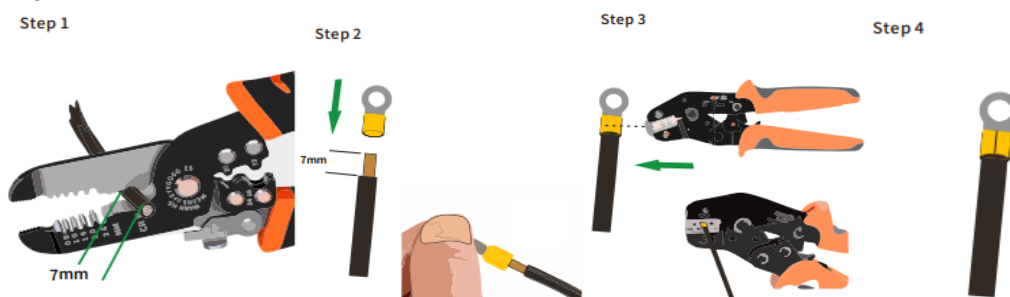

Figure. 10 Ring terminal crimping
⑤ The power cable needs to be crimped with the ring terminal. The crimping process is shown in Figure. 10.